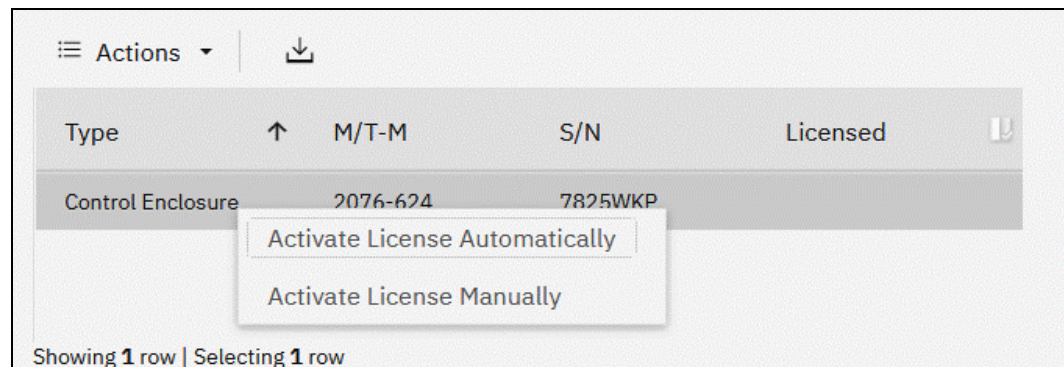

Figure 12-7 Selecting the license activation method
2. Right-click the control enclosure to open a menu with two license activation options (**Activate License Automatically** and **Activate License Manually**), as shown in Figure 12-7. Use either option to activate encryption. For more information about how to complete the automatic activation process, see 12.4.4, “Activating the license automatically” on page 747. For more information about how to complete a manual activation process, see 12.4.5, “Activating the license manually” on page 750.